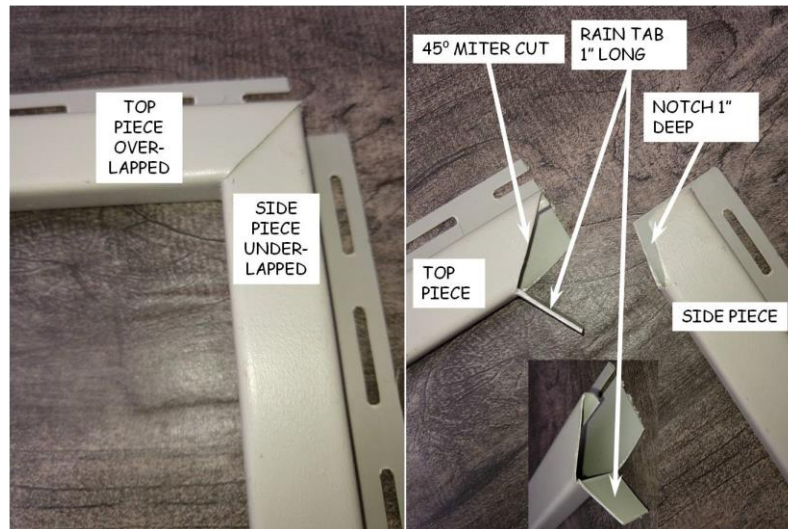

Figure 11-5. J-Channel Upper Corner Detail.
3. For door side pieces, measure from the top of the brickmold to the porch cement, and add 1". Cut J-channel side pieces to that length. Cut a 1" notch in the top end as shown in Figure 11-5. Install the side pieces with the bottom of the notch flush with the top of the brickmold, nailing snugly every fifth slot.
6. Cut a tab on each end of the top piece. Install top piece (nailing snugly every five slots) and fold the tabs down into the vertical pieces (see Figure 11-5) so that water will run off.